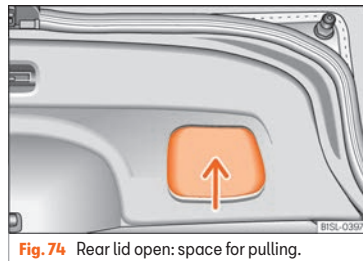

Fig. 74 Rear lid open: space for pulling.
- Grip the cavity of the inner lining of the rear lid » » » **Fig. 74** (arrow).